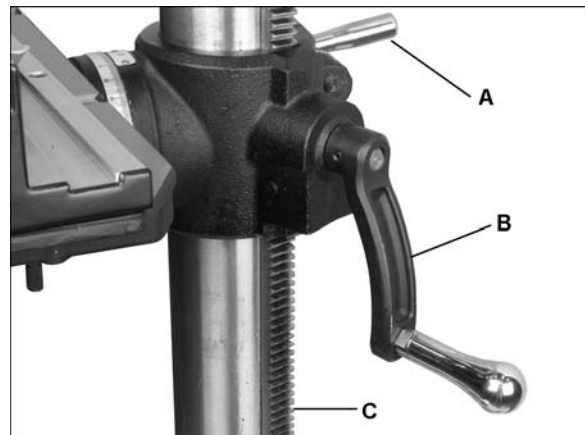

Figure 15
Referring to Figure 15:
Loosen column locking handle (A, Figure 15). Turn table elevating handle (B) to raise or lower table along column rack. Re-tighten locking handle (A) before attempting to drill.